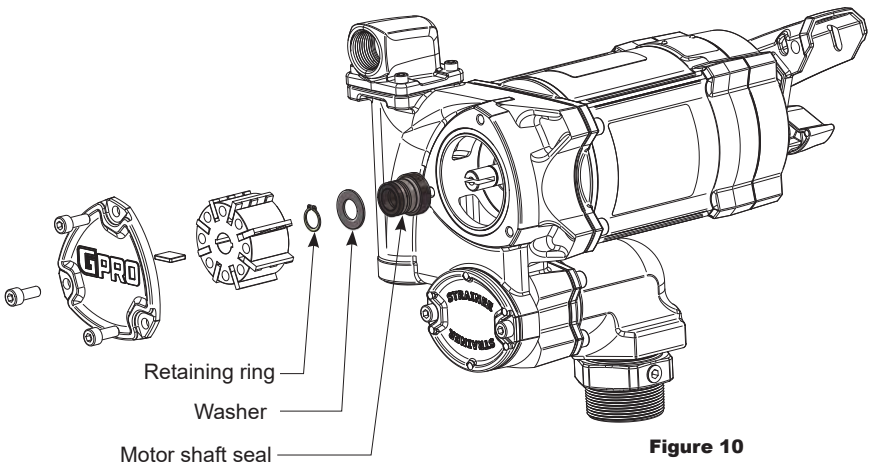

Figure 10
2. Using a 6mm Hex wrench, remove cover plate (see Figure 10). Remove cover plate O-ring.
3. Remove shaft key, rotor, and vanes. Remove vanes and key first before removing rotor to prevent them from falling into pump inlet (see Figure 10).
4. Using snap ring pliers, remove retaining ring, being careful not to damage motor shaft or housing bore (see Figure 10). Remove washer and motor shaft seal. Discard these three parts.